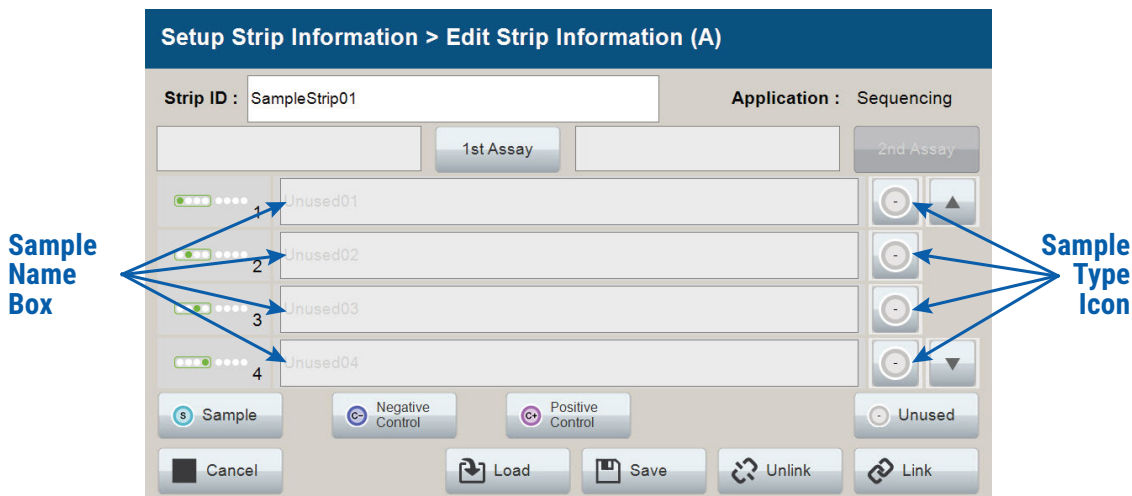
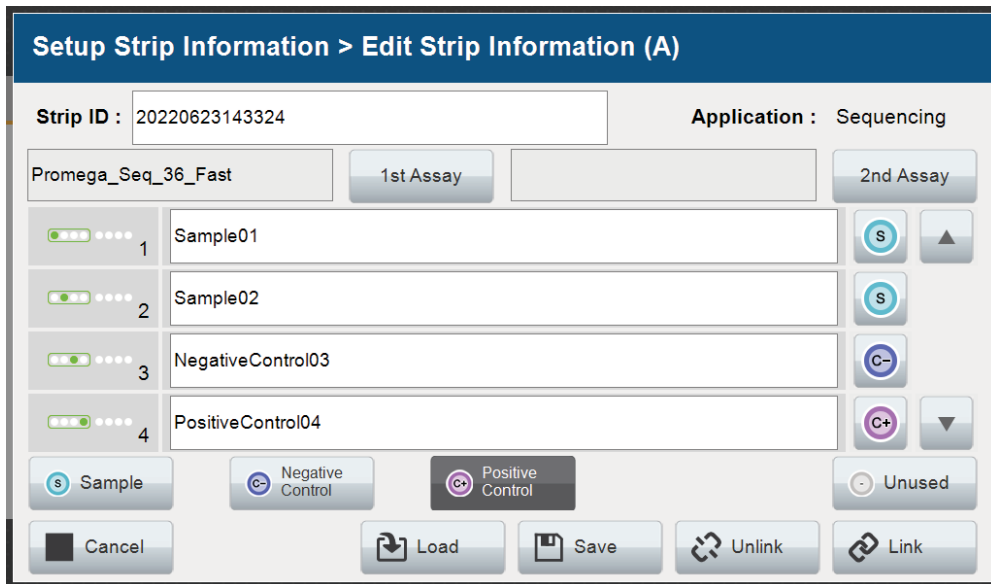
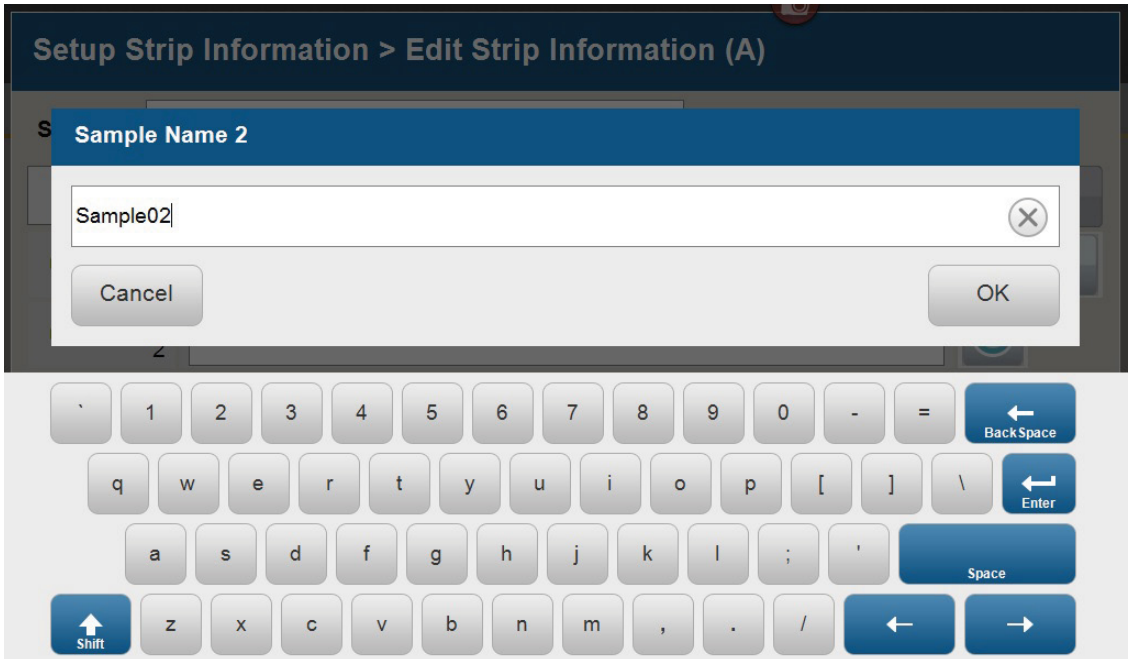

Figure 13. Sample Type and Sample Name on 'Edit Strip Information' screen.
Figure 14. Sample Name Entry on 'Edit Strip Information' screen.
Figure 15. 'Set Sample Name' window.
- Select a sample type on the 'Edit Strip Information' screen (Figure 13). Sample types must be selected for each well position before the Sample Name box becomes active for entry of sample name. Sample types are as follows:
- To assign a sample type to a well, select the appropriate sample type along the bottom of the 'Edit Strip Information' screen (Figure 13), and then select the **Sample Type** icon to the right of the sample name field for the desired well. This icon will then display the sample type selected for that well (Figure 14).
- Enter a sample name for each well position by selecting the Sample Name box adjacent to the well number on the 'Edit Strip Information' screen (Figure 14). This opens the 'Set Sample Name' window and a keypad will become active on the touch screen (Figure 15). Alternatively, the sample name can be entered using a traditional keyboard if one is connected to the Spectrum Compact CE System. Enter the appropriate sample name, and then select **OK** to exit and return to the 'Edit Strip Information' screen.
- The Spectrum Compact Control Software includes preloaded run assays for use with chemistries available from Promega and other vendors. Refer to the *Spectrum Compact CE System Operating Manual #TMD058* for information on creating or modifying assays. To assign a run assay to an injection set, select the **1st Assay** button on the right side of the 1st Assay field (Figure 14). This opens the ‘Select Assay’ window (Figure 16). Select the appropriate assay from the drop-down list (Figure 16) and then select **Apply**.